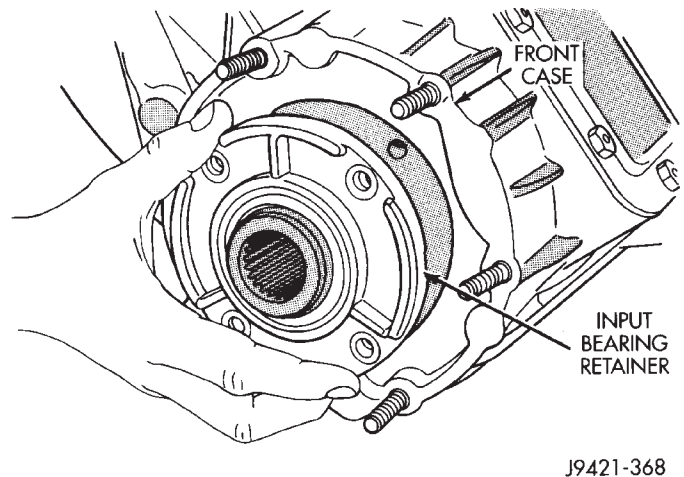
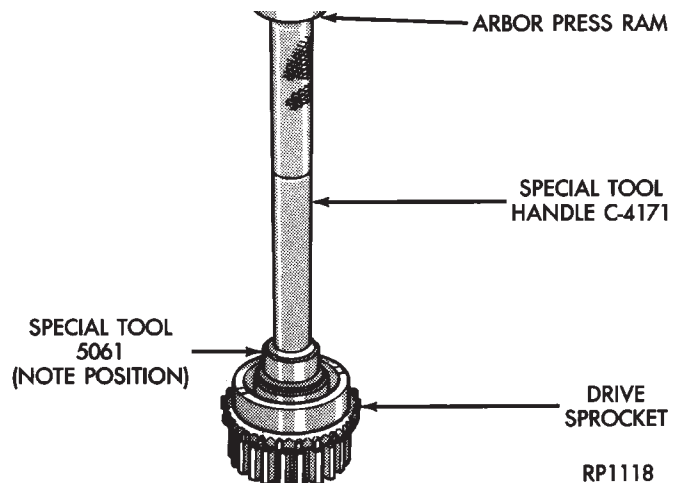

Fig. 46 Bearing Retainer Installation
Fig. 56 Installing Drive Sprocket Rear Bearing
(9) Install input (front) bearing retainer on front case (Fig. 46). Tighten retainer bolts to 21 N m (16 ft. lbs.) torque.
(d) Install new **rear** bearing (Fig. 56). Press bearing in until 4.6 mm (3/16 in.) below edge of bore as shown in Figure 46.